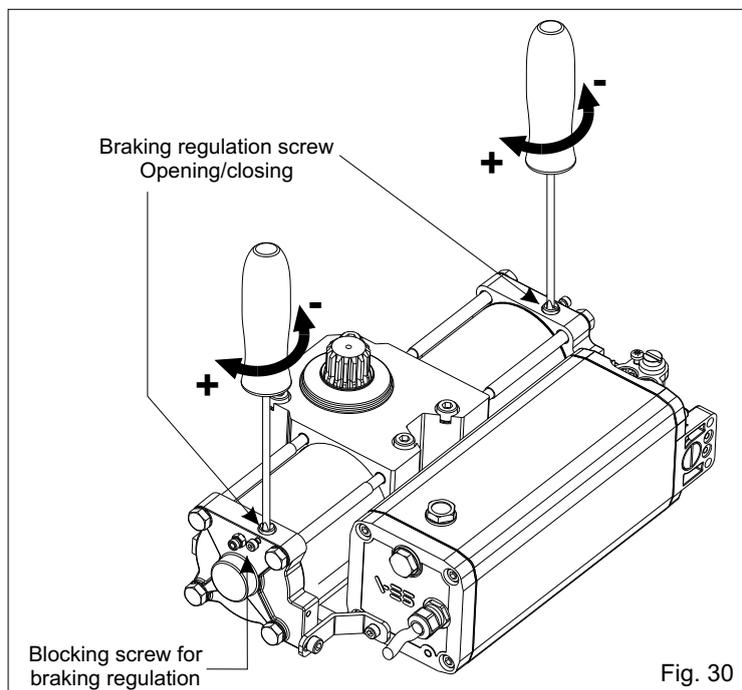

Fig. 30
9.1. It is possible to regulate the leaf slowdown in opening and in closing, through the braking adjusting screw (Fig. 30).